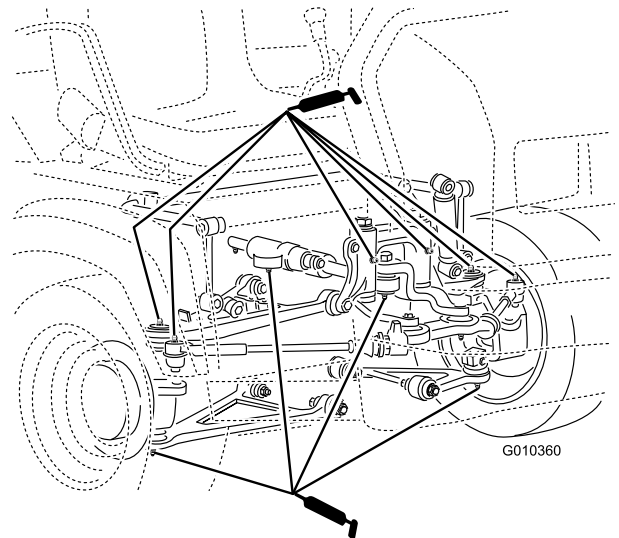

Figure 33
- Ball joints (4), tie rods (2), pivot mounts (2) and steering cylinder (2) (Figure 33)